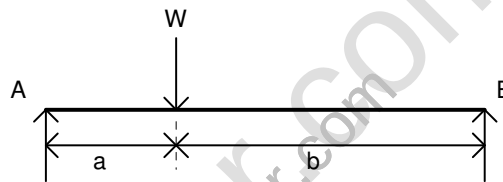

Fig. 3
b) Obtain the deflection equation for the beam shown in Fig. 3. The length of the beam is  $L$  and the flexural rigidity is  $EI$ . Use Macaulay's method. (15M)